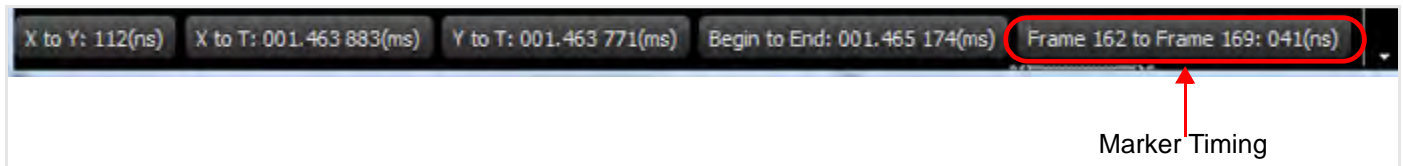

Figure 5.46: Timing between Selected Markers
- 2. Click **OK** to show the time between the two markers in the updated Timing Bar (Figure 5.46).